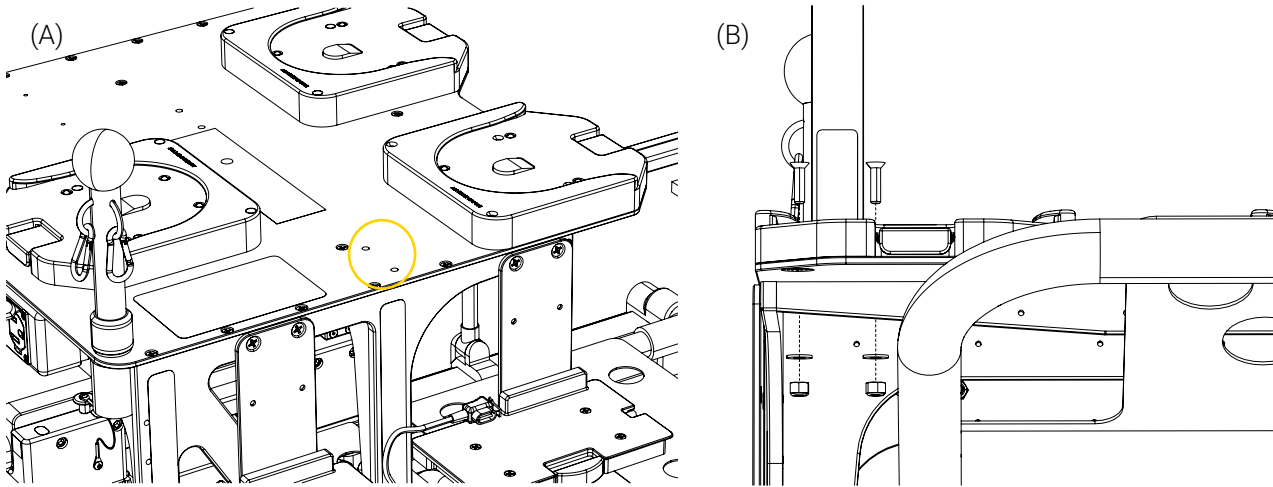

Figure 3: Techni-IV Pole installation on the mobile structure top plate
1. Locate the two (2) holes on the mobile structure top plate intended for the installation of the Techni-IV Pole (Figure 3 A).
2. Place the Techni-IV Pole on the mobile structure top plate aligning the screw holes, then insert the two (2) screws (Figure 3 B).
3. From under the mobile structure top plate, insert a washer and locknut on each screw, then tighten the screws while holding the locknuts using a key 7/16 in. and Philips screwdriver #2 (Figure 3 B).